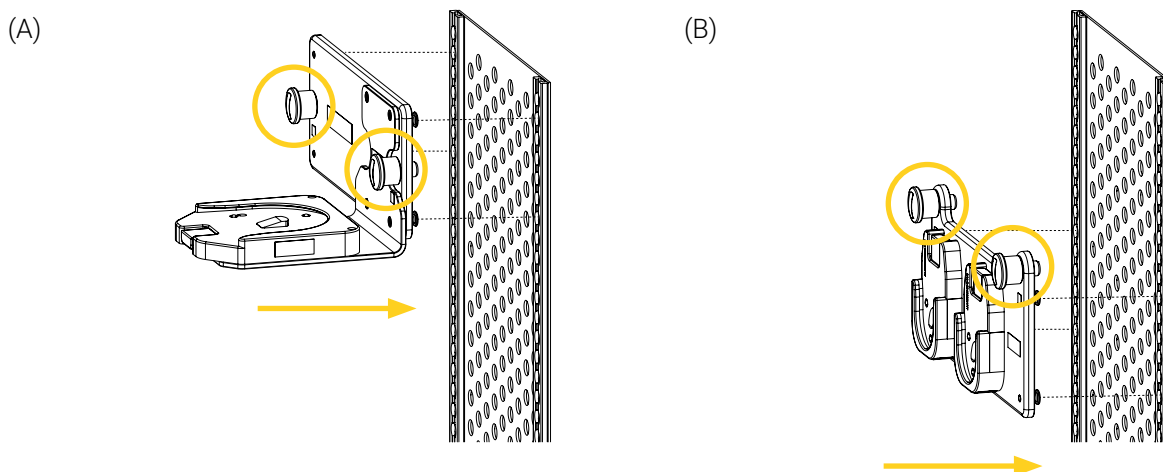

Figure 7: Installing the mounting system in the vertical tracks
3. Lift the mounting system using the rotary locks, then align and insert the four (4) stud fittings in the slots of the vertical tracks (Figure 7).